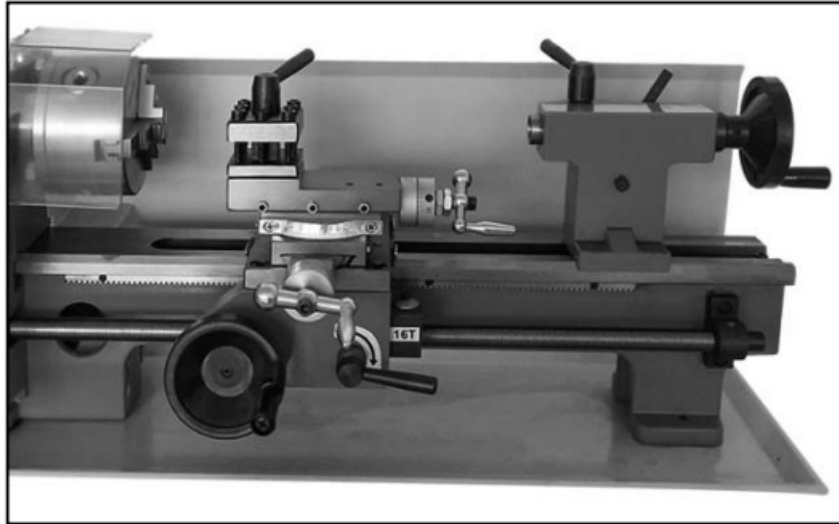

Fig.5 Adjustment Of Saddle, Cross Slide And Compound Rest
6. Check the compound rest crank and the cross feeding crank and see if they work properly. If they are too tight or too loose, turn the adjusting screws located at both sides.(Fig.5)